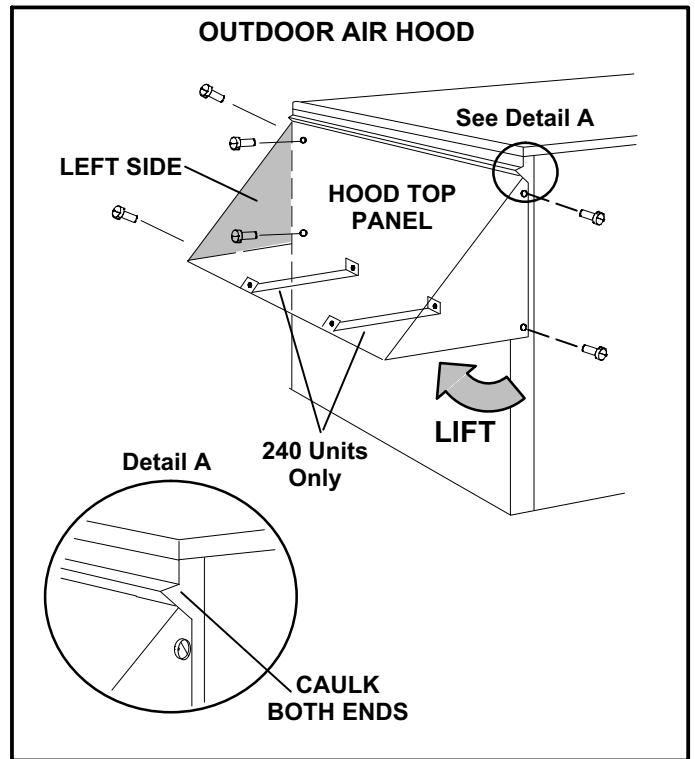
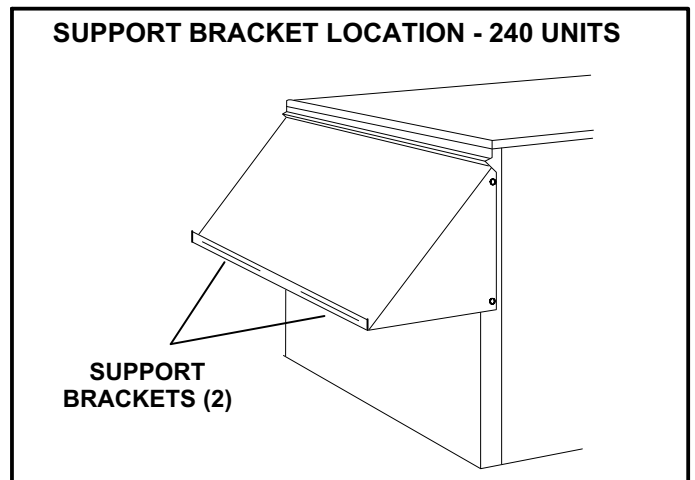

FIGURE 11
FIGURE 12
- 3- Lift (rotate) the bottom of the hood top panel and attach left side to hood top panel. See figure 11.
- 6- 240 Units Only - Remove two support brackets from hood top panel flange. See figure 12. Install as shown in figure 11.